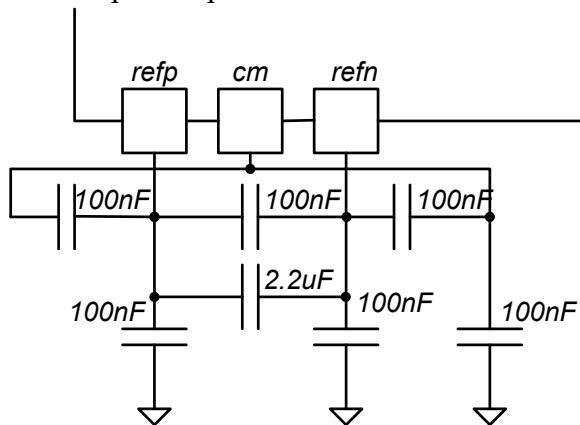

Figure 4: Capacitors on pins refp, cm and refn
- 9) The ADC requires off-chip capacitors on pins refp, cm and refn. The refp, cm and refn pins should be bypassed as shown in figure 4. The 100 nF capacitors between refp and refn should be as close to pins as possible.